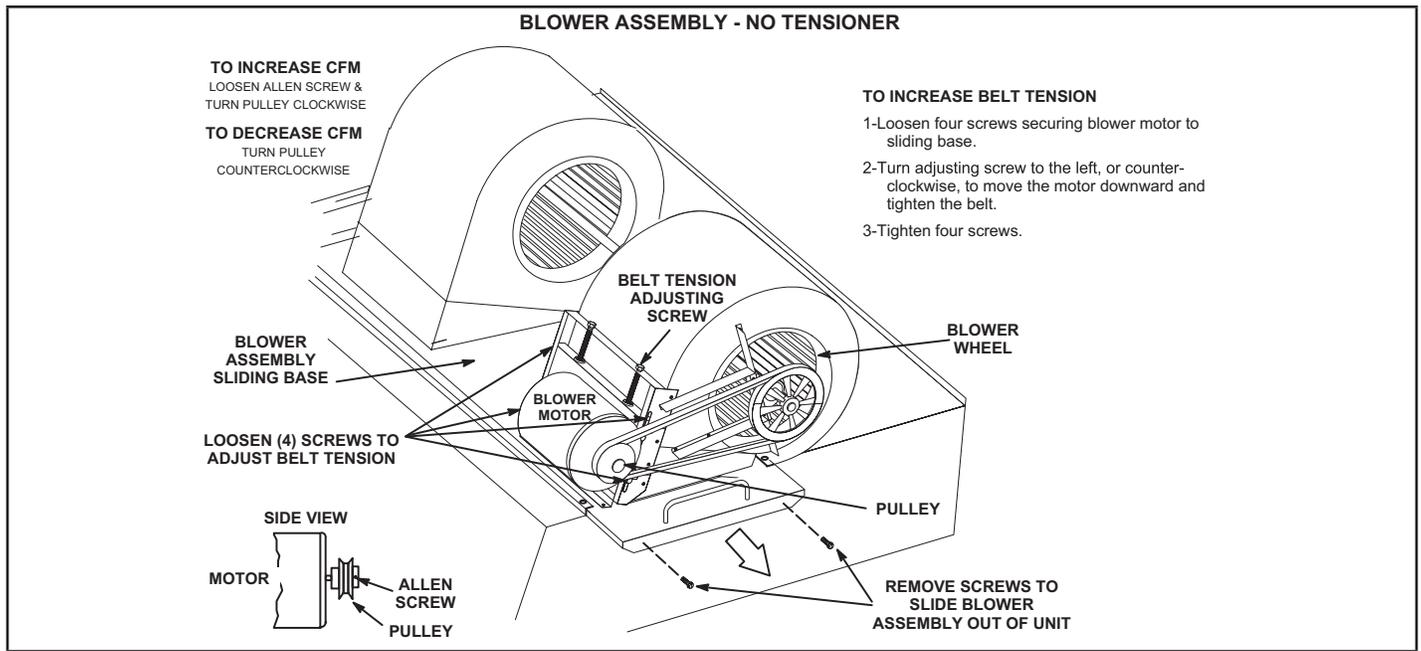

FIGURE 14
The blower compartment is located between the evaporator coil and the compressor / control section on the opposite side of the condenser coil. The blower assembly is accessed by disconnecting the blower motor wiring (and all other plugs) and removing the screws on either side of the sliding base. The base pulls out as shown in FIGURE 14.
- 2 - Remove screws on either side of blower assembly sliding base. See FIGURE 14.
- 4 - The blower RPM can be adjusted at the motor pulley. Loosen Allen screw and turn adjustable pulley clockwise to increase CFM. Turn counterclockwise to decrease CFM. See FIGURE 14. Do not exceed minimum and maximum number of pulley turns as shown in TABLE 5.
- 1 - Loosen four screws securing blower motor to sliding base. See FIGURE 14.